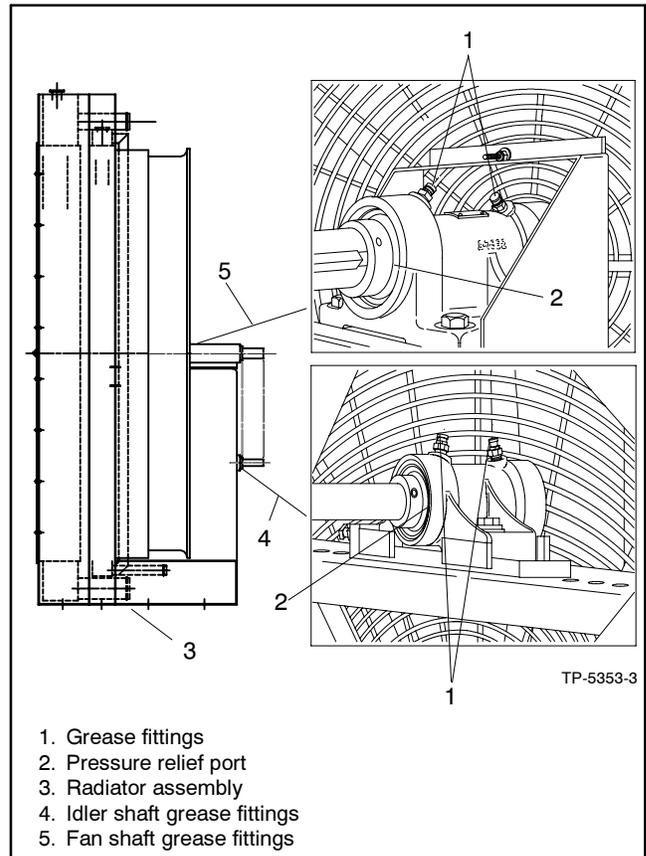

Figure 3-12 Radiator Fan Bearings and Pressure Relief Ports, Typical
4. Inject grease into the two bearings on the fan shaft block and the two bearings on the idler shaft block using a grease gun until a 3–6 mm (0.13–0.25 in.) grease column shows at the bearing pressure relief port. See Figure 3-12.